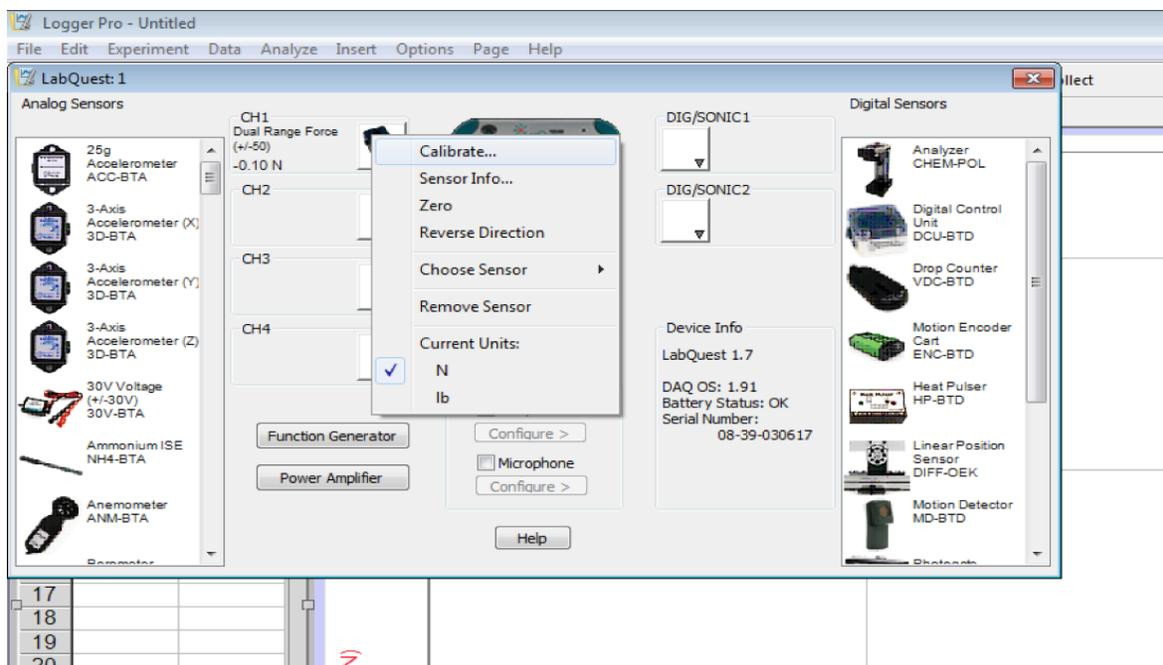

Figure 2
1.1.4 In the window that pops open you should be able to see the icon of the Dual Range FS on **CH 1** (or **CH 2**). Click on the black triangle of that icon. A menu pops up. See Figure 2.